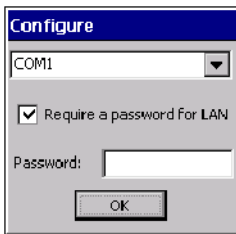

Figure 3-6: Virtual CE server configure window
11. Verify that the setting for the connection type is correct. See Figure 3-6. Remember that Virtual CE for NetTek does not support IRDA, USB, or ActiveSync over Ethernet